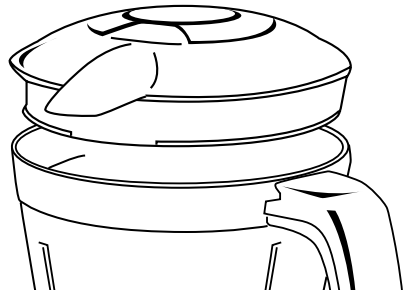

Fig 20
5. Position the lid onto the blender jug so that the long holding lip is facing towards you, see Figure 20.